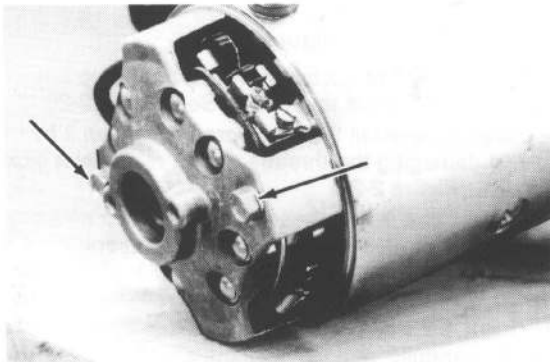

Figure 2-29
1. Remove two bolts securing the motor to the valve housing and remove motor. See Figure 2-29.